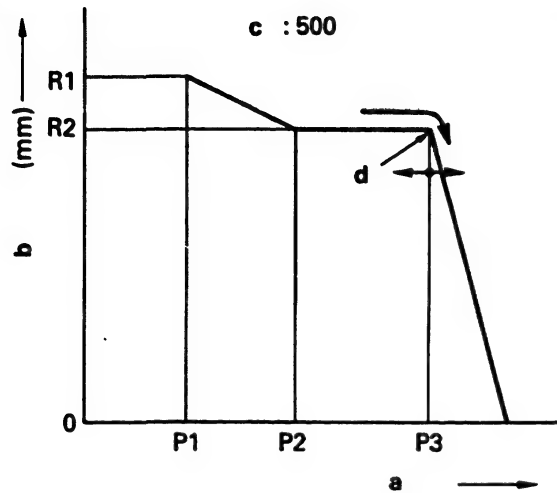

Fig. 64
Adjust the governor spring (11) setting force by changing shim thickness so that at negative pressure level P₃ the control rack begins to move from R₂ in the "fuel-decrease" direction. (Figs. 64 and 65)